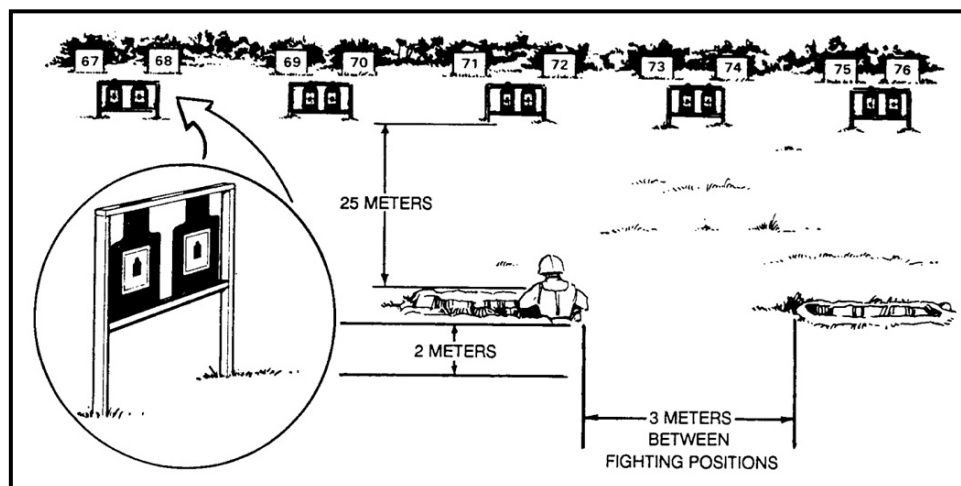

Figure 5-2. The 25-meter range.
(1) The unit is divided into firing orders. The first order fires while the second order coaches. Ten firing points are reserved to conduct corrective instruction.
(2) Sandbags should be provided at each firing point to accommodate supported firing positions (Figure 5-2).
(3) Each shot is fired using the same aiming point (center of mass) from a supported firing position.
(4) Each soldier ensures his sights are set for 25-meter firing.
(5) The soldier fires a three-round shot group at the 25-meter zero target. The firing line is cleared, and he moves downrange to examine the shot group. The soldier and coach examine the shot group for fundamental errors, triangulate the shot group and put the number 1 in the center of the shot group.
(6) If the shot group is off of the 25-meter zero target the weapon should be mechanically zeroed. If the shot group is barely on the target a bold adjustment should be made.
(7) Each shot is fired using the same aiming point (center of mass). The objective is to fire tight shot groups and to place those shot groups inside a 4-centimeter circle (the actual location of groups on the target is not important).
(8) The soldier returns to the firing line and fires a second three-round shot group.
(9) The firing line is cleared, and he moves downrange to examine the second shot group, triangulate, and mark the center of the shot group with the number 2. The soldier groups the two shot groups and marks the center.
(10) Steps 1 through 8 are repeated until the soldier places six out of six consecutive rounds inside a 4-centimeter circle. (The majority of the round must be inside the circle or it is not counted). If the soldier is not grouped in 18 rounds, he should be removed from the firing line and given remedial training before attempting to group again.
(11) Once firing proficiency has been demonstrated from the supported firing position, grouping exercises can be conducted from the unsupported firing position. For example, 27 rounds are allocated for the grouping exercise, if the soldier groups in 18 rounds, he can fire the remaining 9 rounds from the unsupported firing position.